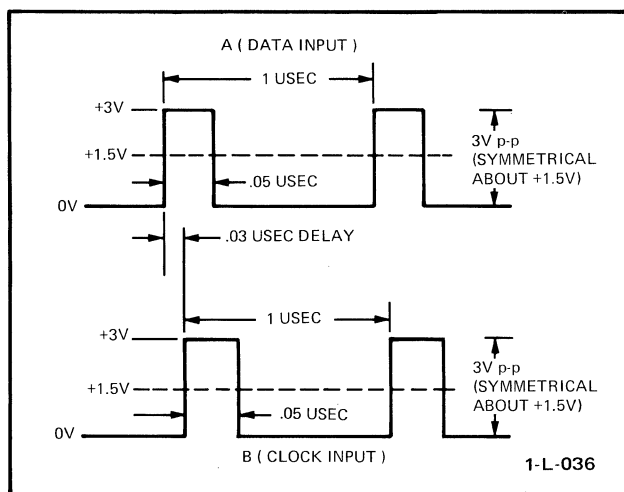

Figure 5-2. Operational Check Input Waveforms
b. Apply waveforms shown in figure 5-2 to the clock and data probe (bits 0 through 11) inputs of the Model 1601A.